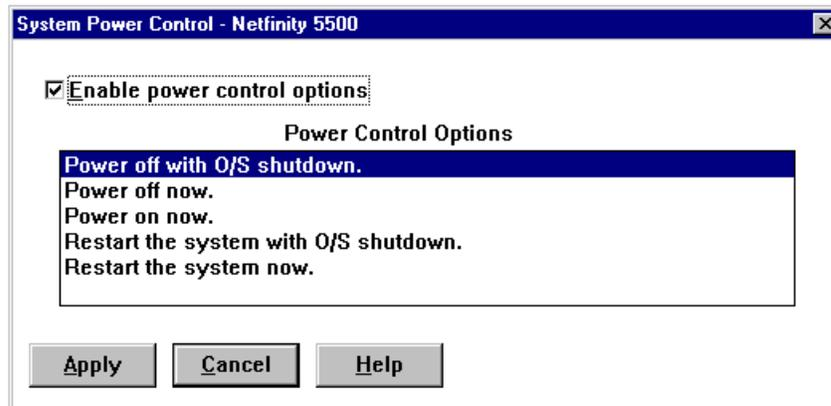

Figure 141. System Power Control on the Netfinity 5500
1. To power down the server, go to the Advanced System Management window and open **System Power Control**. Figure 141 appears.